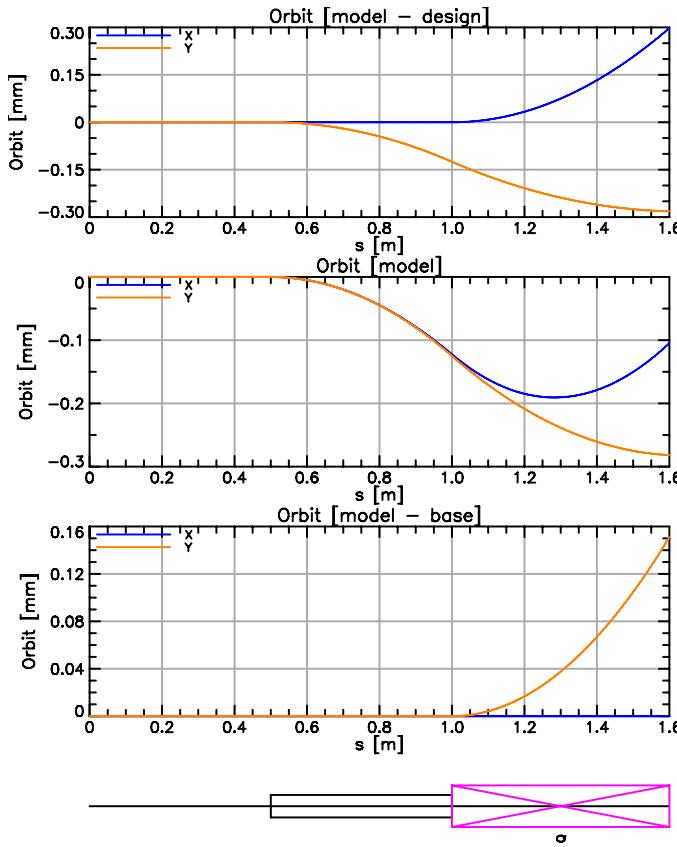

Figure 6: The **base** lattice is used to view changes when the reference lattice configuration does not correspond to the **design** lattice.
The **set lattice** command sets the **base** lattice equal to the **model** lattice. The third command varies the **model** lattice. The result is shown in Figure 6. The bottom plot of the orbit difference between **model** and **base** is not the same as the orbit difference between **model** and **design**.
- 9.1 Modify the middle graph in Fig. 6 so that the vertical orbit curve becomes the horizontal orbit of the **design** lattice.